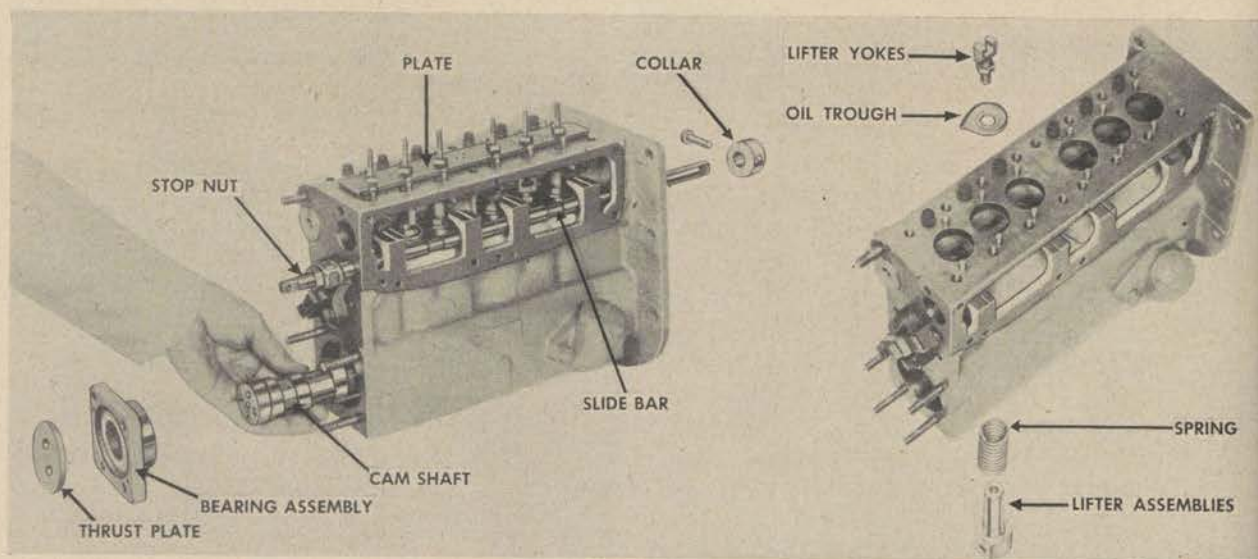

Figure 176. Removing fuel injection pump camshaft and lifter assembly.
1. Remove the fuel injection pumps as described in (8) (c) above and take the hour meter from the injection pump housing.
2. To remove the slide bar (fig. 176), take off the governor spring housing and remove the pin in the slide bar collar
3. With the plate constructed as shown in figure 176, hold up the lifter assemblies, with carriage bolts; insert the bolt heads in the filter yokes and tighten the nuts on the bolts against the plates.
3. Remove the hour meter and install the pointer spindle (fig. 176) at the end of the fuel cam-shaft over the thrust washer, by removing the thrust washer capscrews and lock, and using the longer capscrews supplied with the in-